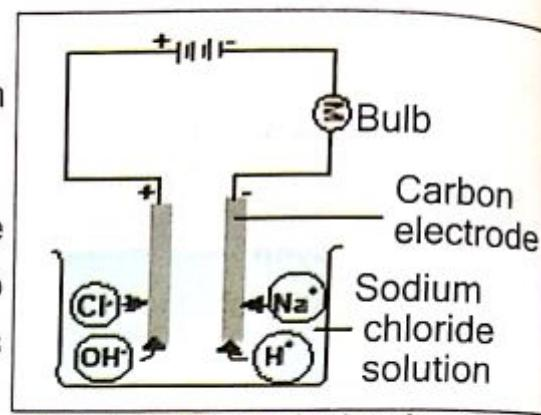

Fig. 1.9: Electrolysis of sodium chloride solution
- 2 Dip the two carbon electrodes into the sodium chloride, solution and connect to the batteries by the connecting wires as shown in Fig. 1.9.